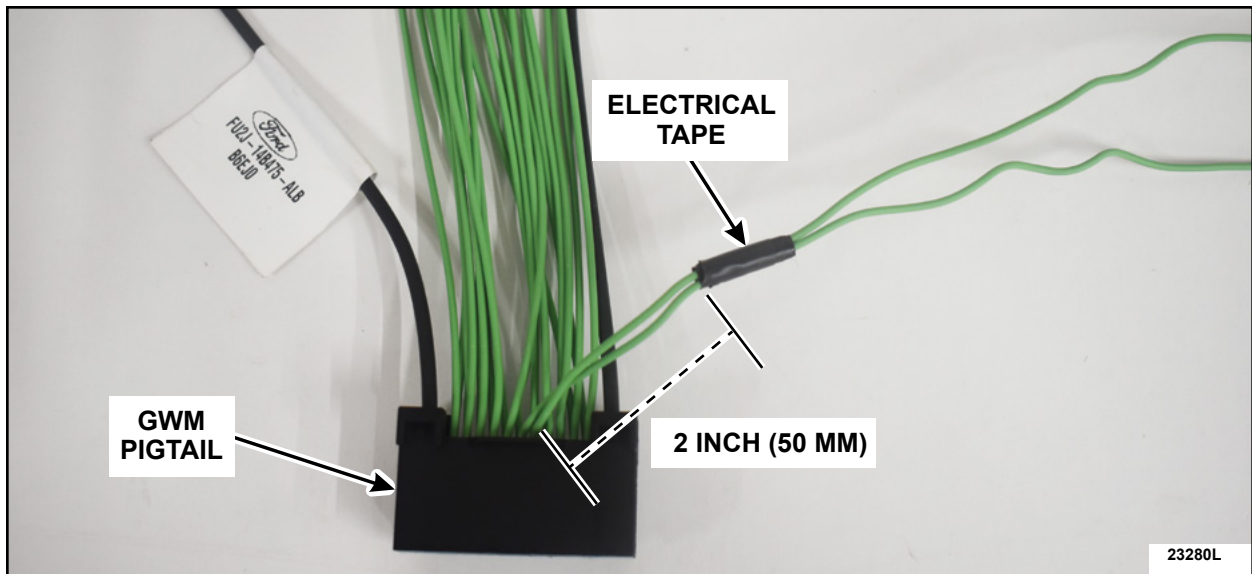

FIGURE 7
12. Measure 2 inch (50 mm) from the back of the GWM pigtail connector and apply a piece of electrical tape. See Figure 7.